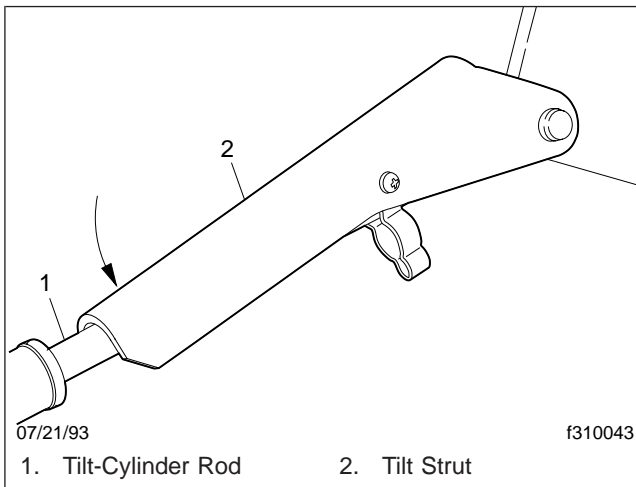

Fig. 11, Tilt Strut Positioning
8. When the cab reaches a 30-degree angle, push the free end of the tilt strut down onto the right tilt-cylinder rod. See Fig. 11. The tilt strut prevents the cab from accidentally dropping below this position.